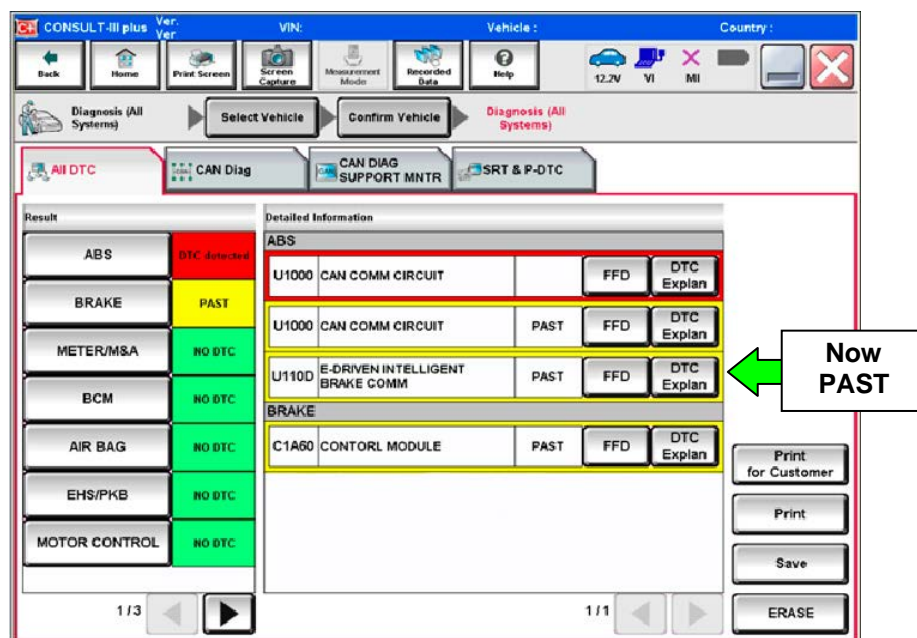

Figure 31
- Figure 31 should now be displayed with U110D as a past DTC.